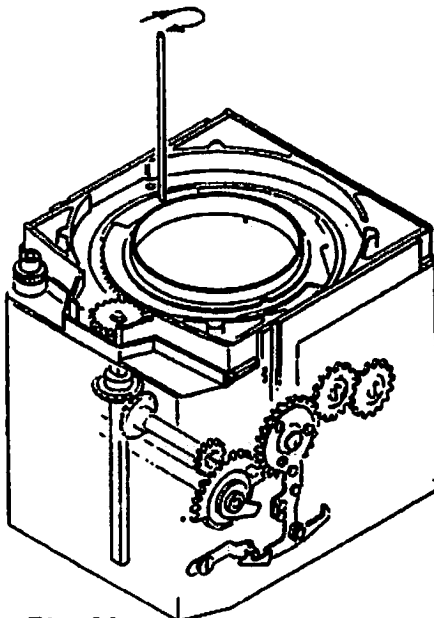

Fig 23
- (1) Mirror raising lever is hooked on the lever.
- (2) Insert a driver into the hole of the cocking ring and move clockwise. Confirm that the cocking ring returns to its original position when gently releasing it as shown in Fig. 23.
- (3) At original position, Cocking ring shall not move counter-clockwise.